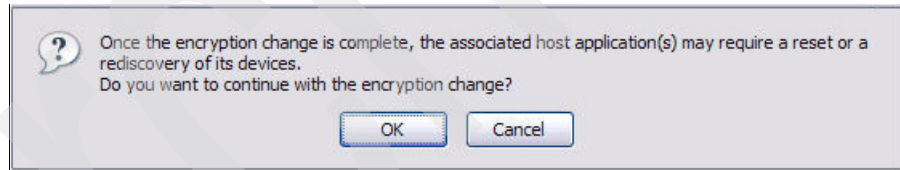

Figure 7-30 IBM UltraScalable Specialist - Encryption Method change confirmation window
- After clicking **Apply**, select **OK** for the following confirmation window shown in Figure 7-30.